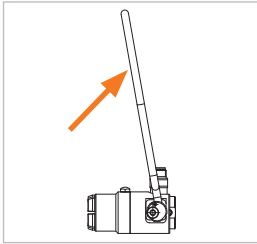

Figure 3
- ▶ Fold the actuation unit (Pos. 1) upwards (*Figure 3*).